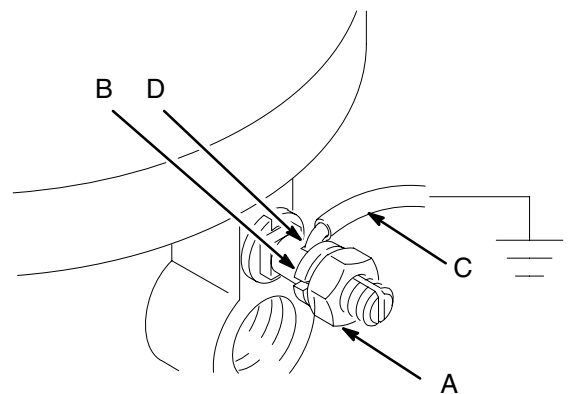

Fig. 1
- **Pump:** Use a ground wire and clamp as shown in Fig. 1. Loosen the grounding lug locknut (A) and washer (B). Insert one end of a 12 ga (1.5 mm²) minimum ground wire (C) into the slot in lug (D) and tighten the locknut securely. Connect the other end of the wire to a true earth ground.